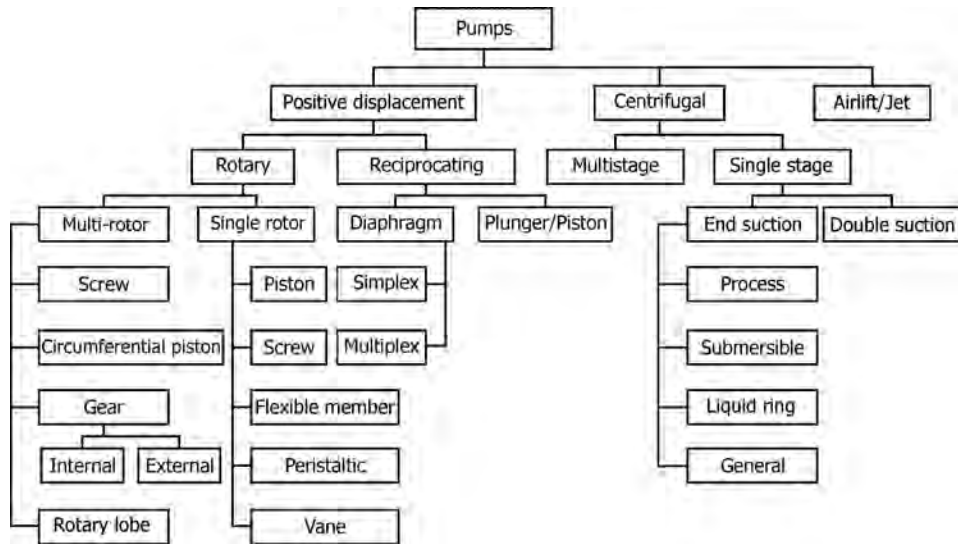

FIGURE 5.1 Pump classification.
- Figure 5.1 presents a broad classification of pumps.